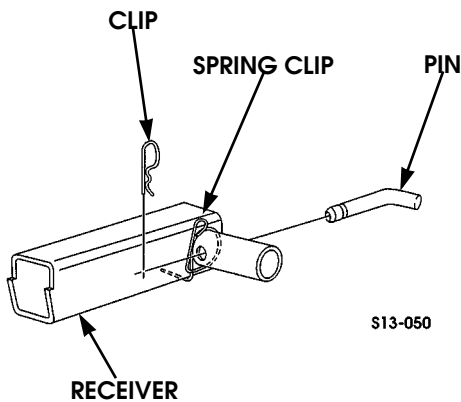

Figure 13-46: Receiver
1. Remove two clips and pins securing the right and left curved tubes to the receiver (Figures 13-46 and 13-47).
11. Position two spring clips on receiver. Ensure the spring clips are positioned 180 degrees from each other (Figure 13-46).